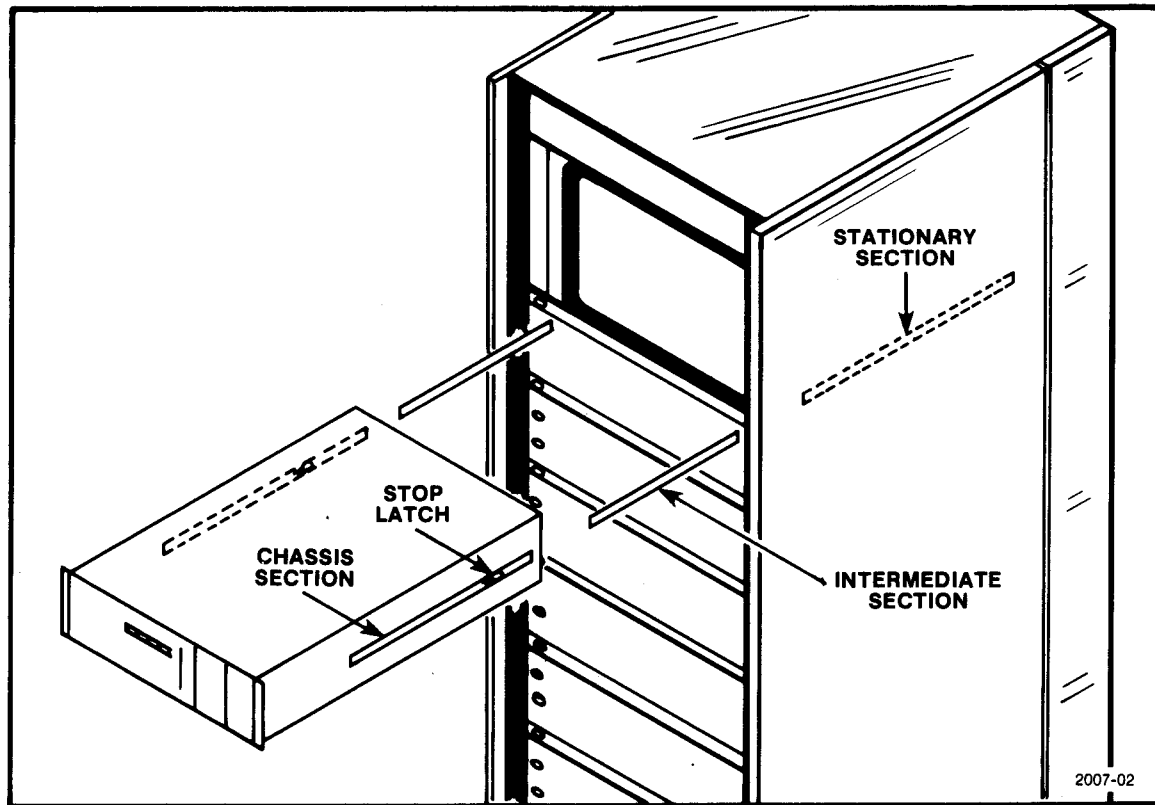

Fig. 2-1. Rackmounting the R7912.
3. Insert the R7912 chassis rails into the track. See Fig. 2-1.